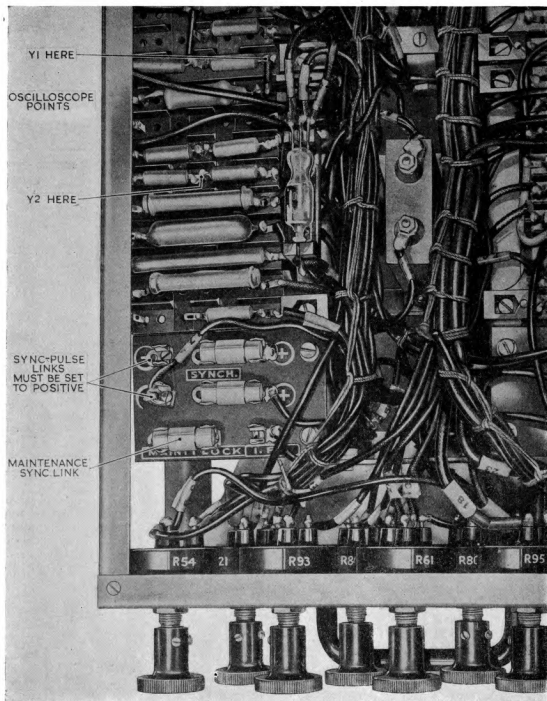

Fig. 41. Timebase unit Type 42 : sync link panel
134. Indicating unit Type 123, which displays AMES Type 14 radar signals and IFF A-band signals, obtains its synchronizing pulses from the AMES Type 14 radar transmitter and mixer unit Type 13. It follows, therefore, that the radar transmitter must be operating before the A-band display can be set up. Unless the link on timebase unit Type 42 is in the MAINT position, the mixer unit Type 13 must be operating also (*fig. 41*).
138. Before attempting to set up this unit, verify that the SYNCH links (*fig 41*) are set for positive operation.
- (1) Ensure that the radar transmitter is operating.
- (2) Withdraw timebase unit Type 42, and apply the waveform from V8 anode to the Y1 plate of an oscilloscope Type 10 and the waveform from the junction of resistors R47 and R48 to the Y2 plate; *fig. 41* shows the points from which the oscillograms can be taken.
- (1) Place the LOCK link (*fig. 41*) to the IFF position.
- (2) Switch off the CAL key (console 1).
- (3) Turn the control marked AK.98 RADAR on the front panel of console 1, amplifying unit Type 413, to give a noise level of 2mm on the lower trace of indicating unit Type 123.
- (4) Adjust BRIGHTNESS and FOCUS controls and check calibration.